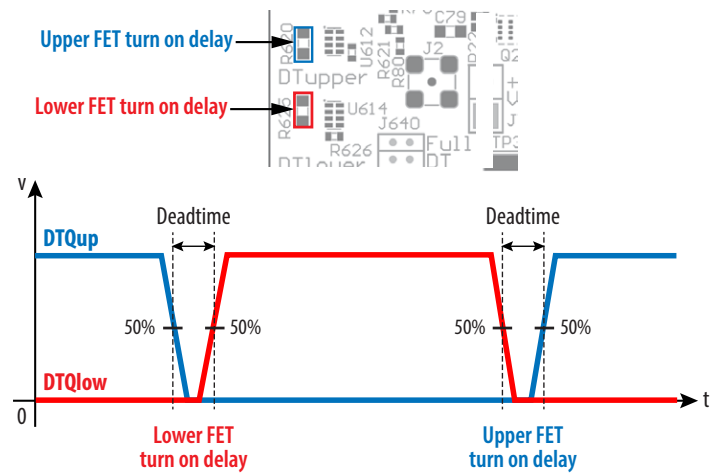

Figure 3: Definition of dead-time between the upper-FET gate signal (DTQup) and the lower-FET gate signal (DTQlow)
Dead-time is defined as the time between when one FET turns off and the other FET turns on and for this board is referenced to the *input of the gate driver*. The dead-time can be set to a specific value where resistor R620 delays the turn on of the upper FET and resistor R625 delays the turn on of the lower FET which is illustrated in figure 3.
2. With power off, connect the switch node (SW) of the half bridge to your circuit as required (half bridge configuration). Or use the provided pads for inductor (L1) and output capacitors (Cout), as shown in figure 3.